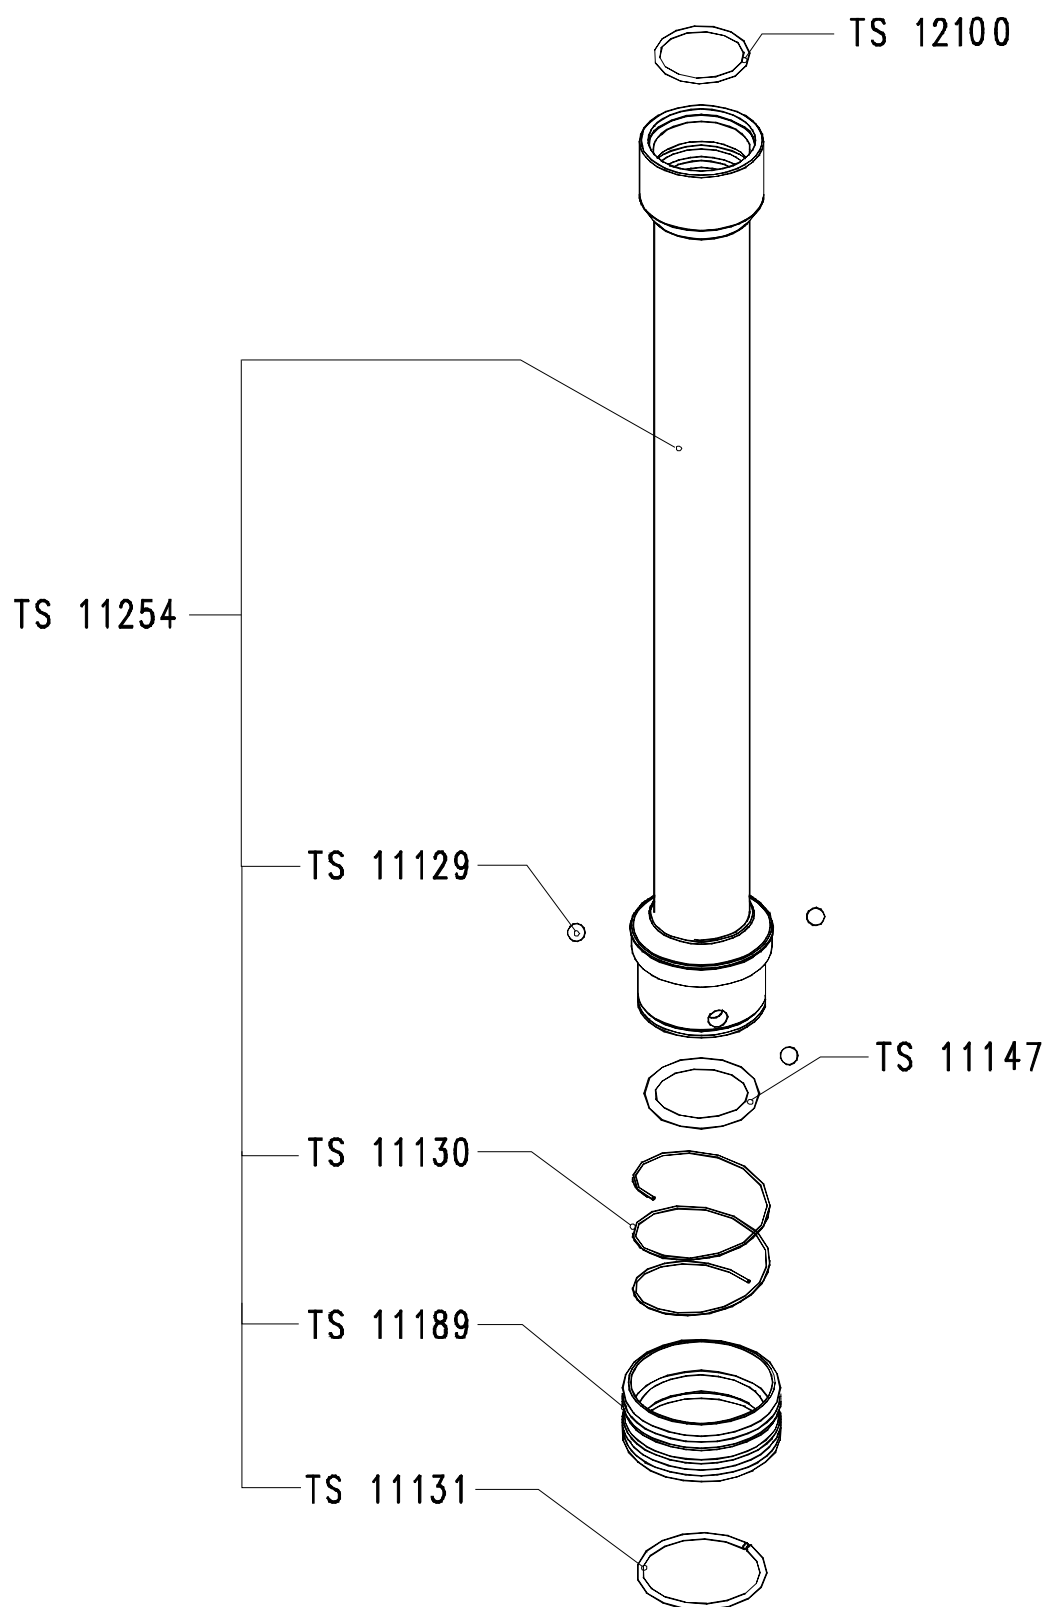

Figure 13-5: storage tube SS1-Q1 TS 10186, details
- Figure 13-5: storage tube SS1-Q1 TS 10186, details